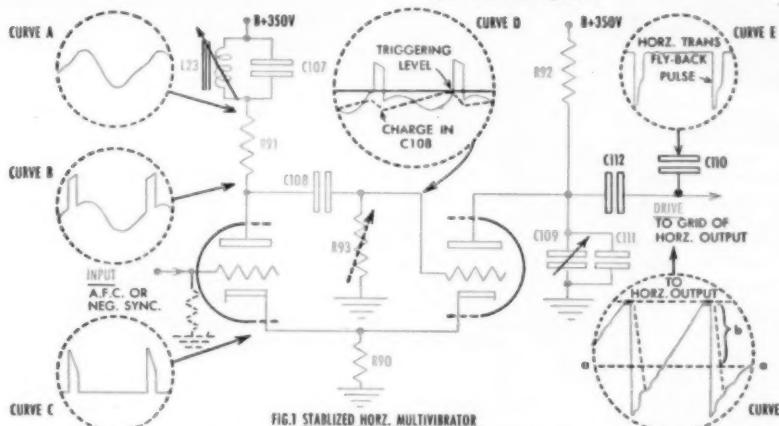

FIG.1 STABILIZED HORIZ. MULTIVIBRATOR
2. The Stabilized Horizontal Multivibrator oscillator, shown in Fig. 1, uses a stabilizing memory circuit (L23 & C107) to prevent line-by-line displacement of the picture (tearing) as a result of any interfering noise appearing along with the horz. sync.